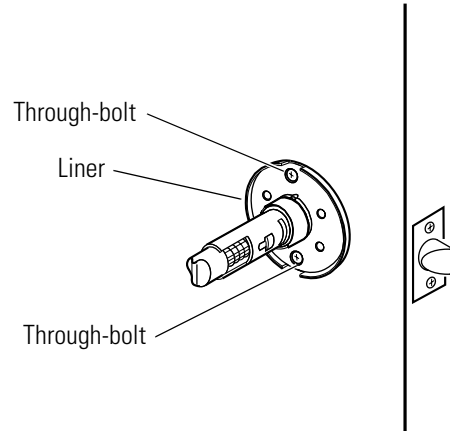

Figure 3.6 Removing the two through-bolts
3. Unscrew the two through-bolts, as shown in Figure 3.6. Save the through-bolts.